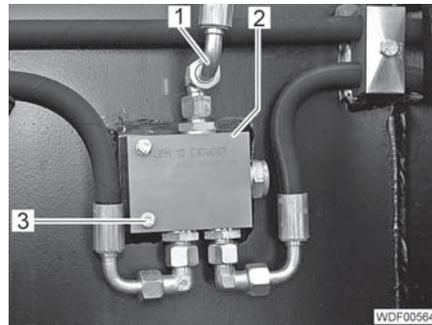

Fig. 474 Valve attachment
- Unscrew and close off the 3 hydraulic lines (Fig. 474,1).
- Unscrew the 2 screws (Fig. 474,3).
- Remove the valve (Fig. 474,2).
- Screw in 2 screws (Fig. 474,3) with washers and tighten.
- Screw 3 hydraulic lines (Fig. 474,1) onto the connections of the valve and tighten.